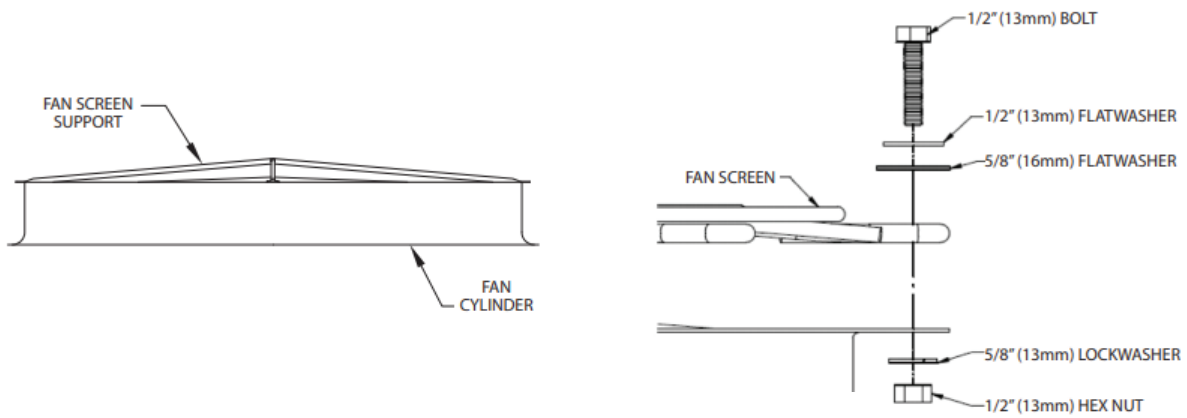

Figure 24 — Fan Screen Support & Fan Screen Installation
1. Set the fan screen support across the top of the fan cylinder as shown in Figure 24.
4. At each hole, attach the fan screen to the fan cylinder as shown in Figure 24.